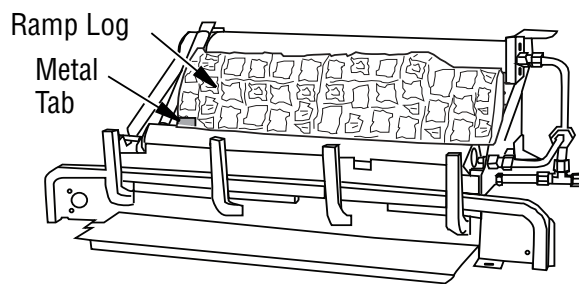

Figure 30 - Installing Fiber Ramp Log
2. Place fiber ramp log in center of chassis as shown in **Figure 30**. The fiber ramp log can be identified by the shape and much lighter weight when compared to the other logs. The log must sit flat on the black sheet metal and behind the left metal tab as shown. Make sure the side marked "BOTTOM" is setting down.